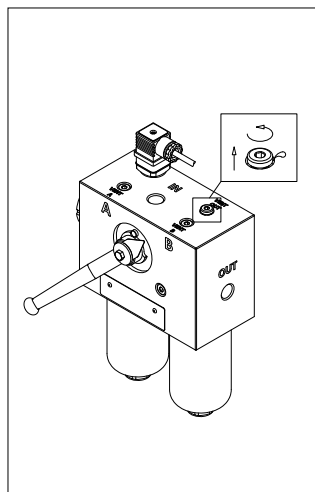

fig. 33
- (Fig. 33) Bleed the air from the system through the “Vent OUT” breather plug loose by a maximum of one turn, until the operating fluid starts oozing